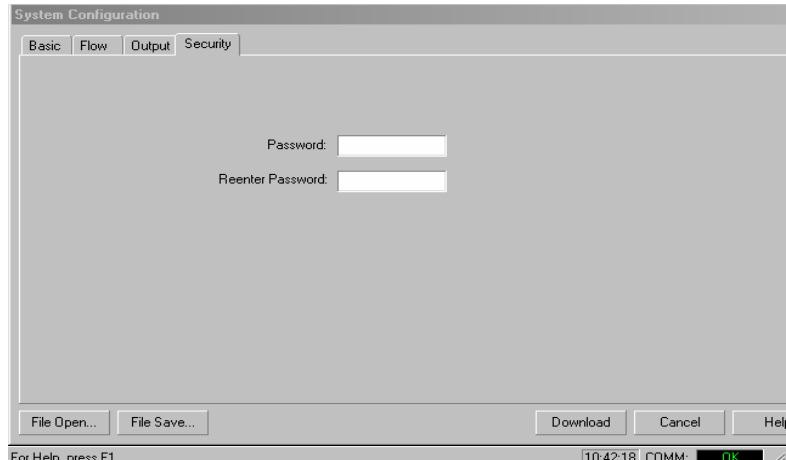

Figure 4.6
4. The Security tab, **Figure 4.6**, contains a provision for adding password protection to the configuration of the flow meter. Passwords between the values of 1 and 9999 are acceptable. The factory backdoor password is 8113. Use 8113 to access the flow meter should the entered password be forgotten. Leave the password set to 0 to avoid being prompted for password entry.